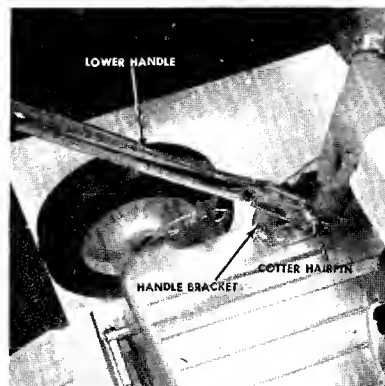

FIGURE 2.
2. Assemble the lower handle to the handle brackets as shown in figure 2.
3. Secure the handle with cotter hairpins on both sides. See figure 2.